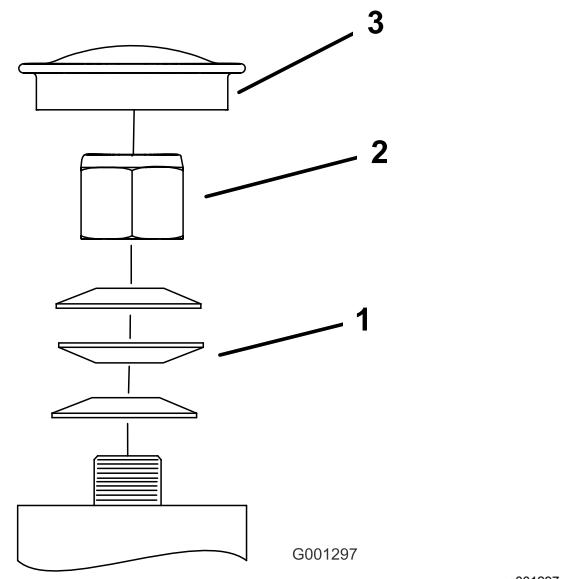

Figure 66
3. Remove the dust cap from the caster and tighten the locknut (Figure 66).
4. Tighten the locknut until the spring washers are flat, and then back off a 1/4 turn to properly set the preload on the bearings (Figure 66).
5. Install the dust cap (Figure 66).